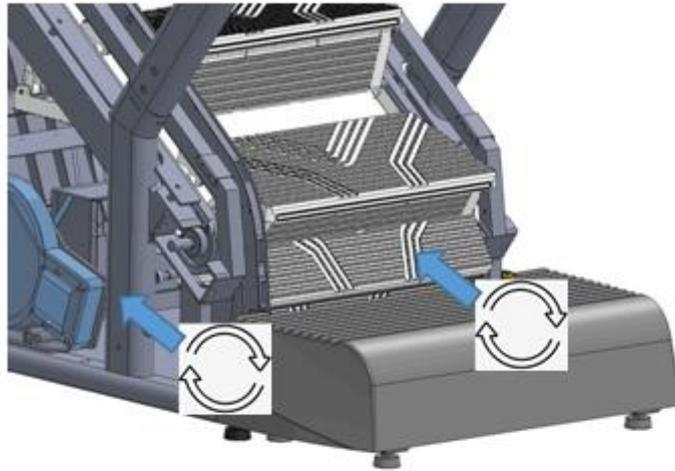

Figure 1↵
- + Turn the gear clockwise to tighten the chain. (see figure 1)